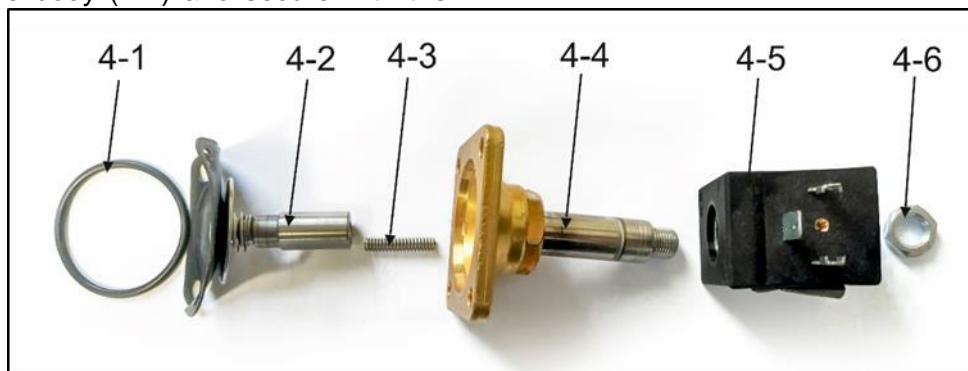

Fig. 37: Solenoid valve assembly
- Unscrew the 1 screw from the valve connector (1).
- Disconnect the valve connector (1).
- Unscrew the 4 screws (2).
- Remove the solenoid valve (3).
- Remove the valve seal (4-1) from the body. (Fig. 37).
- Install the solenoid valve (Fig. 37).
- Install the new solenoid valve using the 4 screws (2) and use a thread locking adhesive on the threads of the screws (such as Loctite 243).